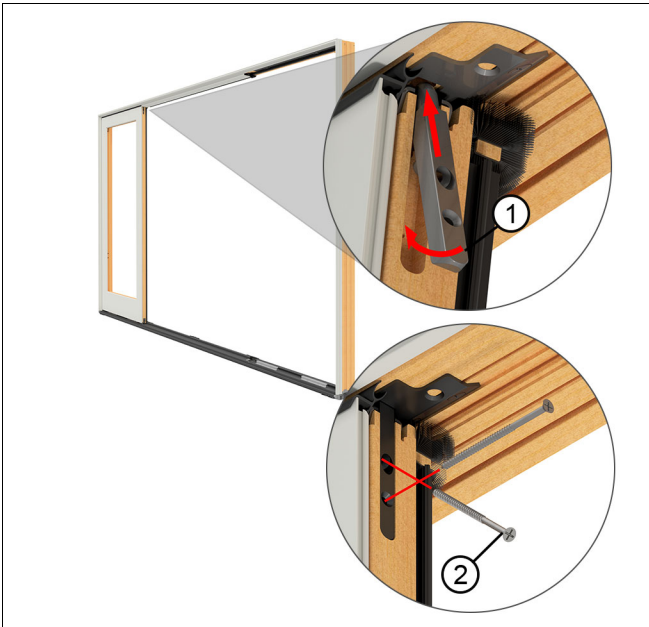

Figure 15
5. Install the end of the stationary bolt into the head jamb strike plate. Slide the bolt into place and fasten to the stationary panel with the two #8 x 3" flat head screws. Note that the top screw is installed at an angle. You will need to push up on the head jamb to allow clearance for the stationary bolt to engage in the plate. See Figure 15.